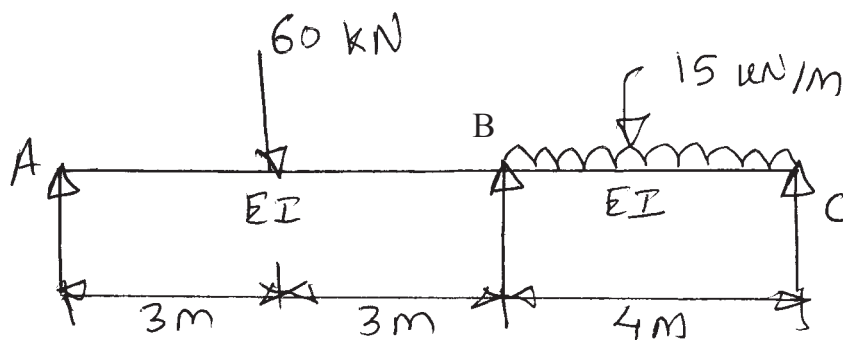

Fig. No. 2
- b) Calculate support moment and draw B.M.D. for a continuous beam by using three moment theorem as shown in Fig. No. 2.